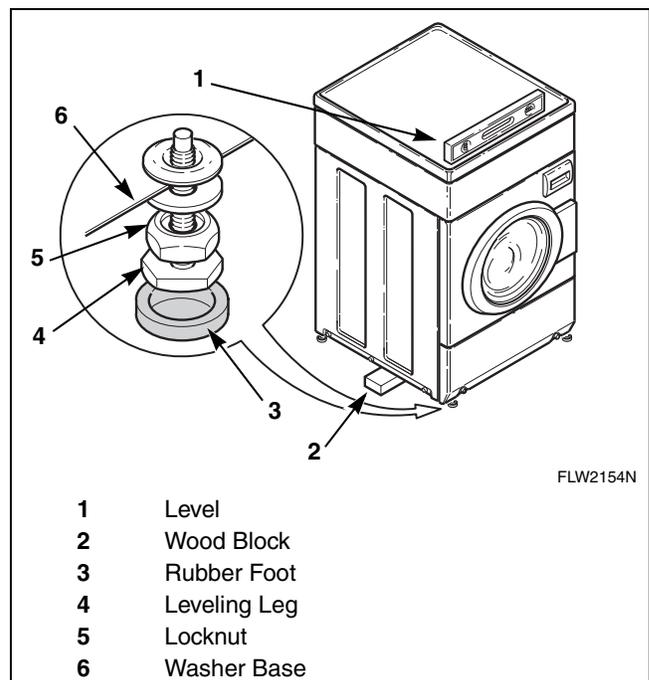

Figure 8
For easier access to leveling legs, prop up washer with a wooden block. Refer to *Figure 8*.
**NOTE: Level must rest on raised portion of top panel. Refer to *Figure 8*.**
Place rubber feet (supplied in accessories bag) on all four leveling legs. Refer to *Figure 8*.